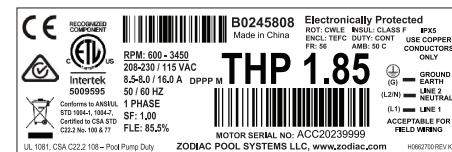

Figure 11. Motor Rating Plate Label
1. Please refer to the motor rating plate label to find the motor serial number (*Figure 11*).